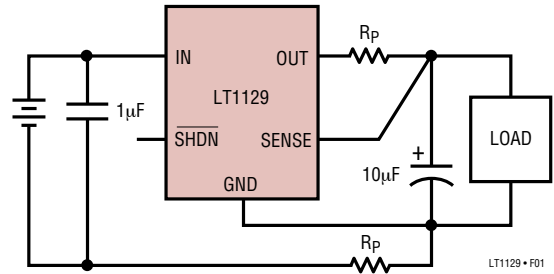

Figure 1. Kelvin Sense Connection
**Sense Pin:** For fixed voltage versions of the LT1129 (LT1129-3.3, LT1129-5) the sense pin is the input to the error amplifier. Optimum regulation will be obtained at the point where the sense pin is connected to the output pin. For most applications the sense pin is connected directly to the output pin at the regulator. In critical applications small voltage drops caused by the resistance ( $R_P$ ) of PC traces between the regulator and the load, which would normally degrade regulation, may be eliminated by connecting the sense pin to the output pin at the load as shown in Figure 1 (Kelvin Sense Connection). Note that the voltage drop across the external PC traces will add to the dropout voltage of the regulator. The sense pin bias current is  $15\mu\text{A}$  at the nominal regulated output voltage. This pin is internally clamped to  $-0.6V$  (one  $V_{BE}$ ).